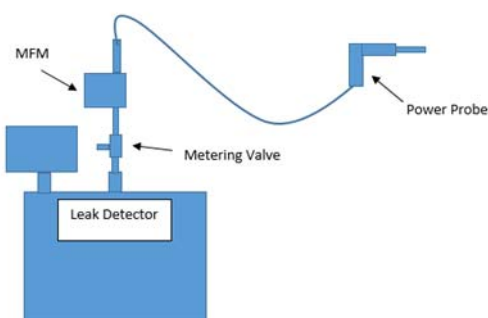

Figure 5-16 Metering Valve Overall Assembly
2. Connect the fine metering valve in series with the leak detector (Figure 5-16).